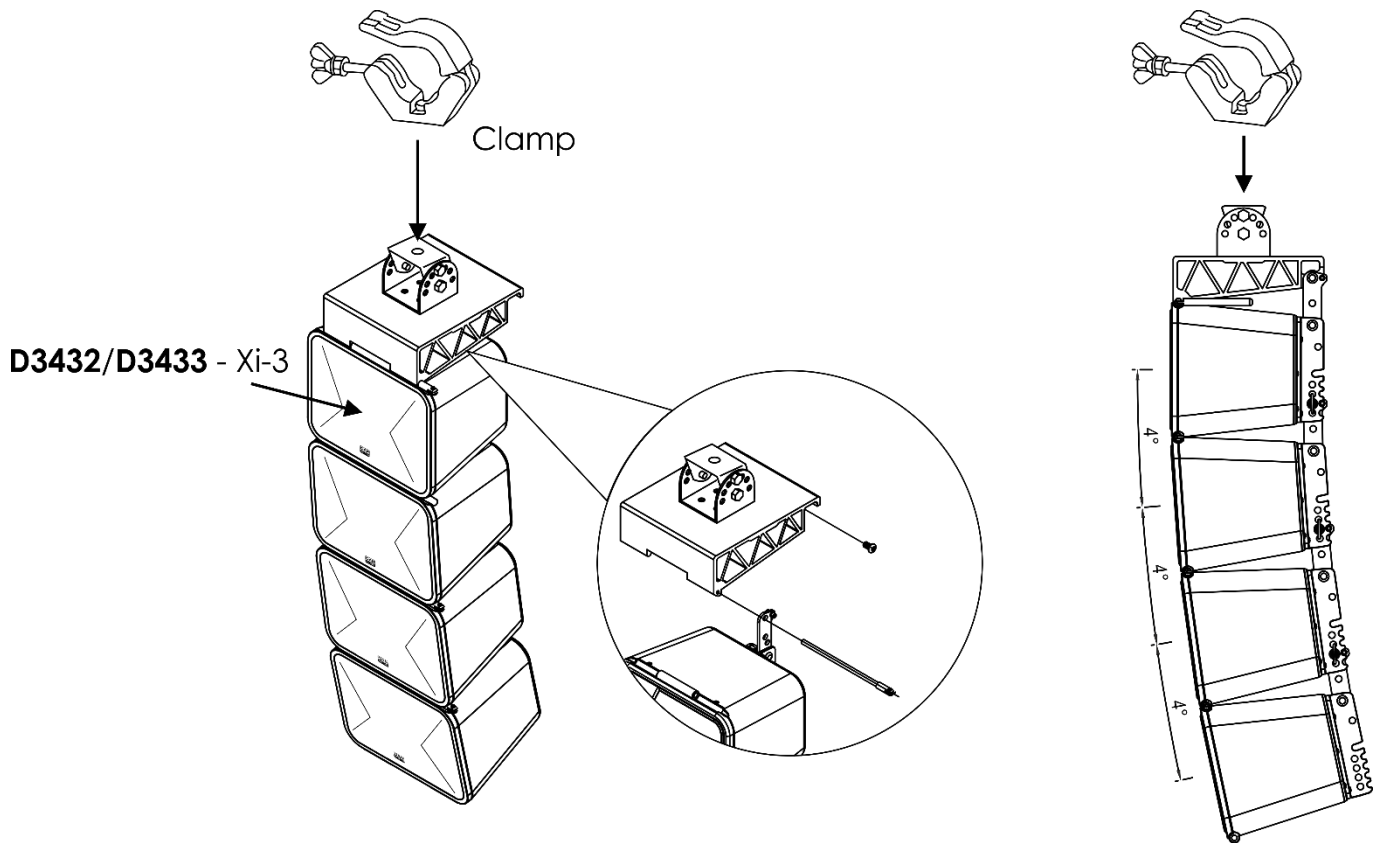
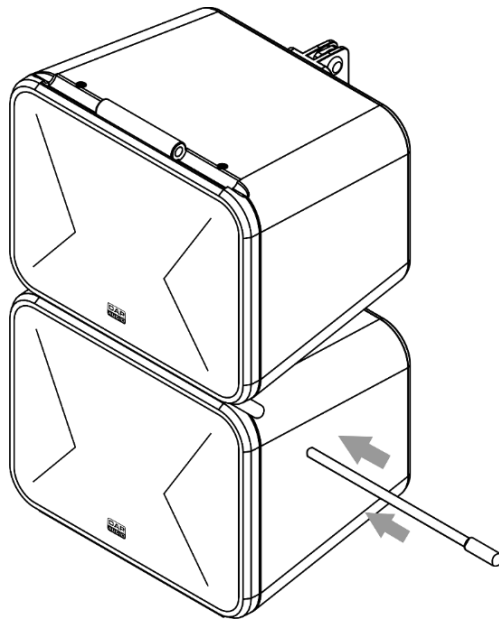

Fig. 02
Fig. 03
01) By means of a clamp, mount the Suspension Bracket (D3436/D3437) on a truss (fig. 02).
- 02) Mount the Xi-3 speakers on the Suspension Bracket, from the top downwards, and insert the rigging pins to connect them to each other (fig. 02 and fig. 03).